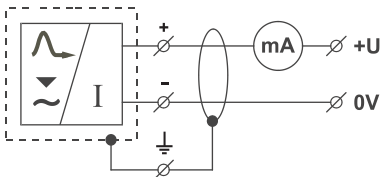
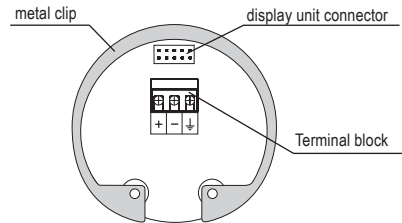

Fig. 31: Wiring diagram of the level meter with current output GRLM-70_--_I
Fig. 32: Inside view of screw terminals of the level meter with current output GRLM-70_--_I
5. Connect the cable to the screw terminals Fig. 32 or 34 according to the diagram in Fig. 31 or 33. Firmly tighten the terminals and the cable outlet. Tightening torque see. Technical parameters p. 57.
In the event of strong ambient electromagnetic interference, paralleling of conductors with power distribution, or for distribution to distances over 30 m, we recommend grounding the level meter (see above) and using a shielded cable. Ground the shielding of the cable on the side of the power supply, or the shielding is possible to connect only on inside pin of the level meter marked --- see fig. 32 and 34 (the shielding of the cable is always connected in a single location).